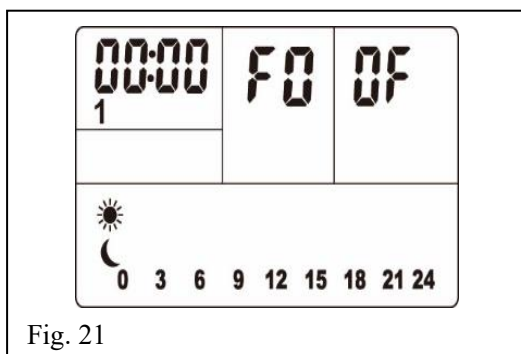

Fig. 21
2. Once in the program fenestrata open, See Fig. 21 the screen appears.